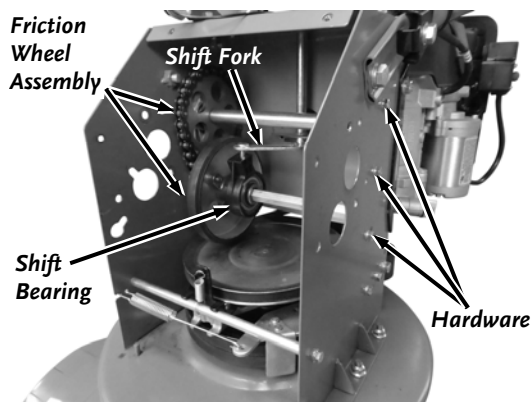

Figure 76
13. Remove the six Bolts, Lock Washers and Flat Washers (three each side) that secure the Friction Wheel Assembly using a 10mm Wrench (**Figure 76**).
5. Install the Friction Wheel Assembly into the machine (**Figure 76**). **IMPORTANT!** - As you position the Friction Wheel Assembly into the machine, ensure that the Chain is on the left side of the machine and the Shift Fork Pin is inserted into the Shift Bearing slot.